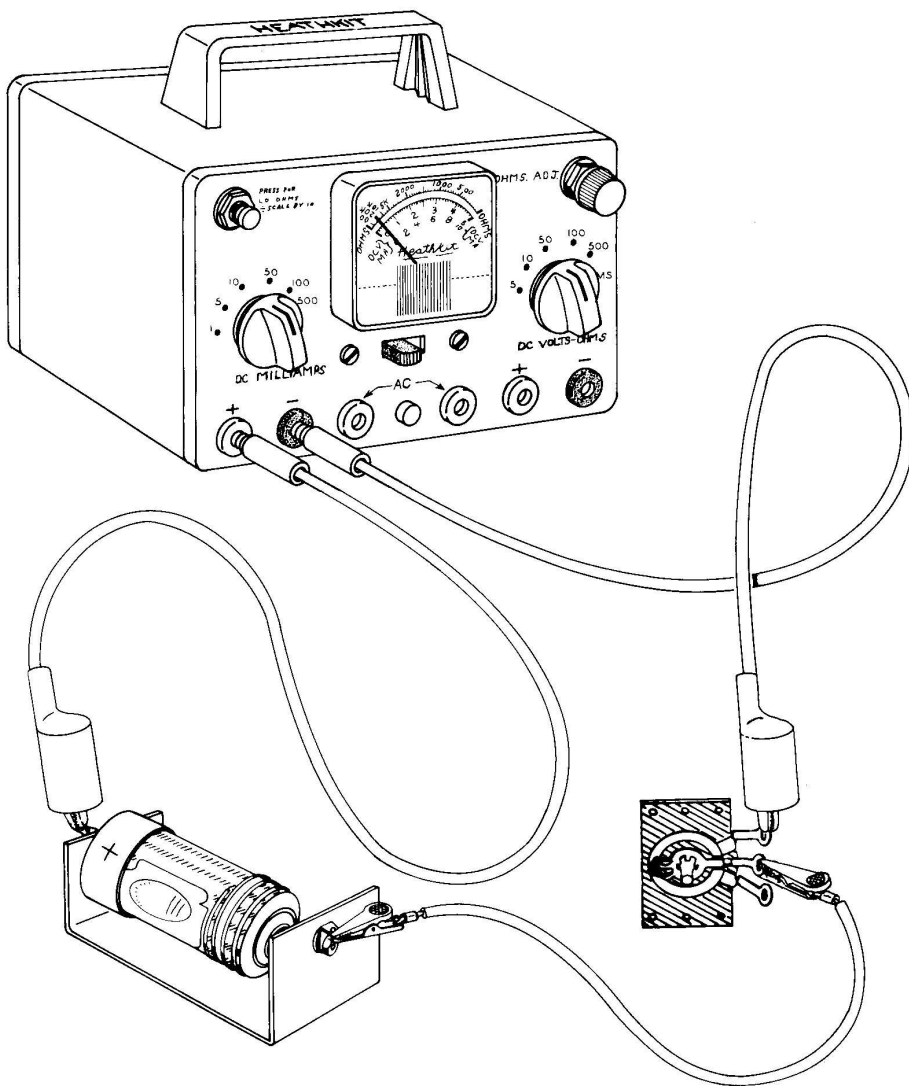

Figure 3-20
- ( ) After making sure that the pointer knob is set at 10 ma, insert one red test lead at the red (+) banana jack and one black test lead at the black (-) banana jack. Connect the alligator clips to the test circuit, Figure 3-20, and vary the load (control), reading the current on the 10 ma scale.